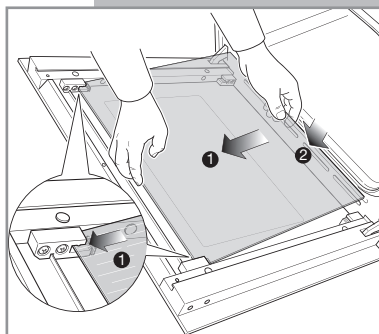

Fig. 55
- Gently insert the top edge of the pane into the top clamps (arrow 1 in fig. 55), then lower the pane and insert the bottom edge into the bottom clamps (arrow 2 in fig. 55); and then slide the pane into position (fig. 56).